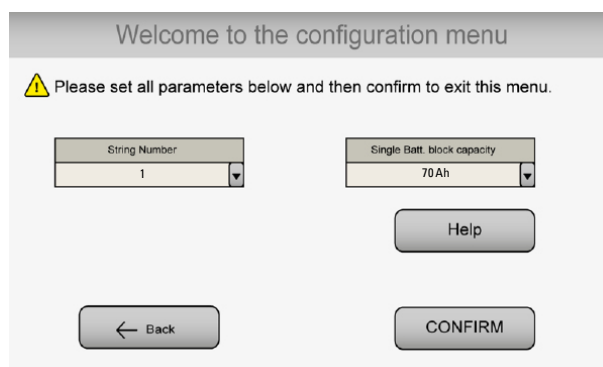

Fig. 42. Second HV equipment configuration screen.
- At this point, with no active alarm, green LED of Input Voltage OK **(a)** (see Fig. 42), should light in all UPSs.
- Start up the inverter, by means of the keypad **(3)** (see Fig. 42). In parallel systems make the procedure equipment by equipment the first time or after complete shutdown, in order to establish the communications among each unit of the system. From main screen press **(▼)** key to access to «CONTROL AND STATUS OF THE UNIT» submenu (screen 1.0), and then press **(▶)** key. The screen 1.1 will be displayed, asking you to start the equipment up by pressing **(ENT)**. Do so, and then validate the operation by pressing **(ENT)** again. See the diagram of Fig. 39.
- Make sure that the inverter on LED indication **(c)** lights (green), and bypass LED **(b)** is turned OFF in all UPSs (see Fig. 42). If the status of the LEDs is wrong, please contact with the **T.S.S.** (Technical Service & Support).